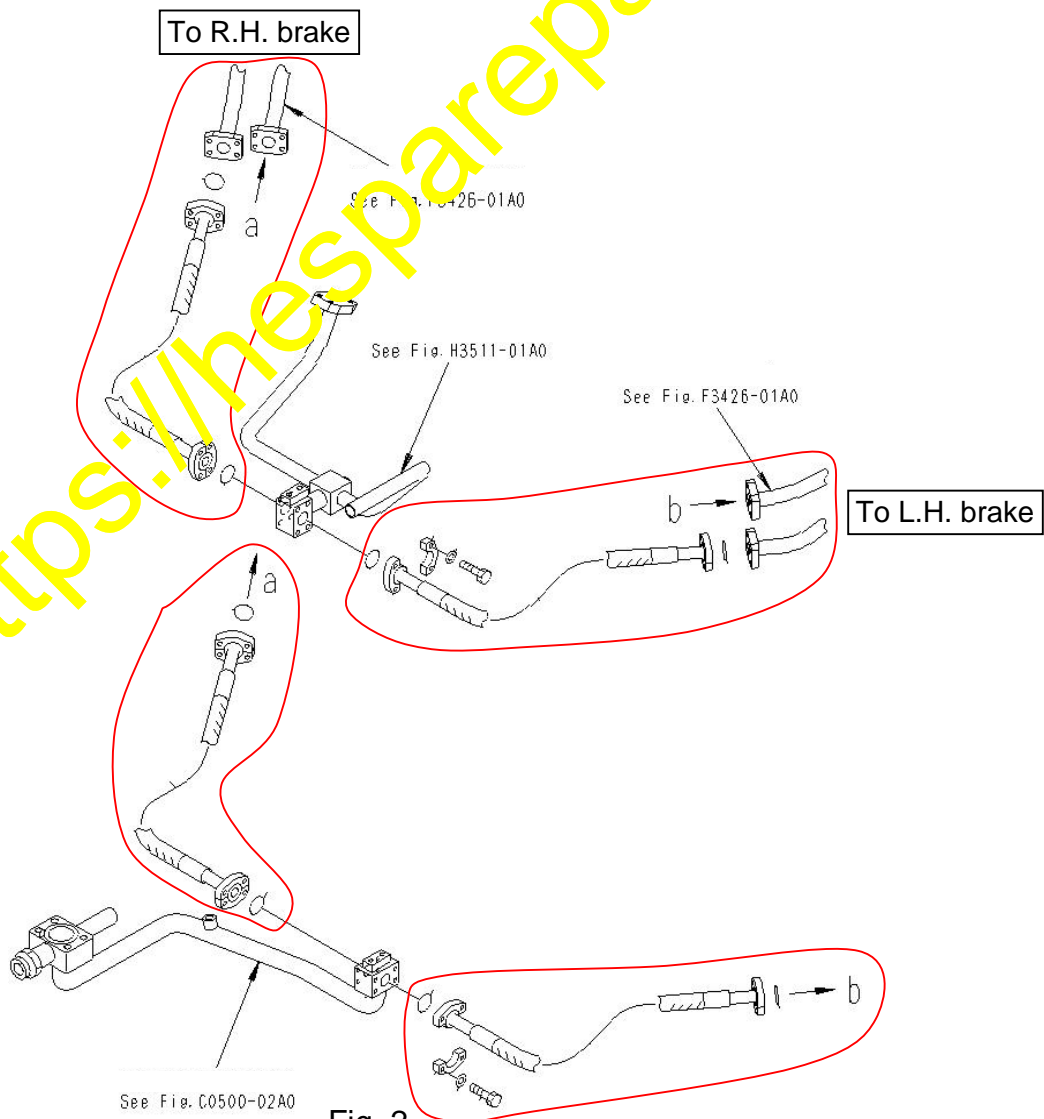

Fig. 2
- 4) Disconnect the front brake cooling piping. (Refer to Fig. 2.) Parts marked ○